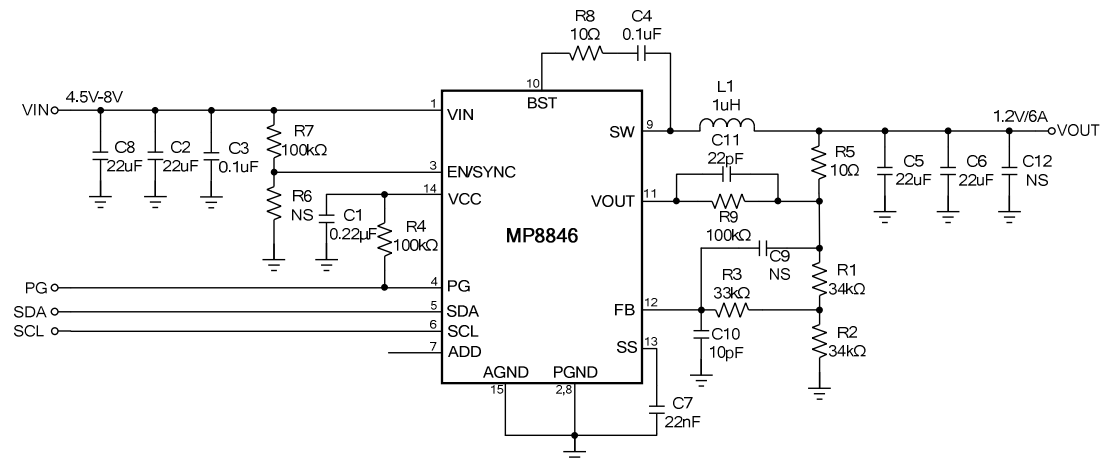

FIGURE 14. 5V Input_1.2V/6A Output ⁽¹⁴⁾
- 12) The recommended layout is based on Fig. 14 in the Typical Application Circuits section on page 26.
The detailed application schematics are shown in Fig. 14. The typical performance and circuit waveforms have been shown in the Typical Performance Characteristics section. For additional device applications, please refer to the related evaluation board datasheets.